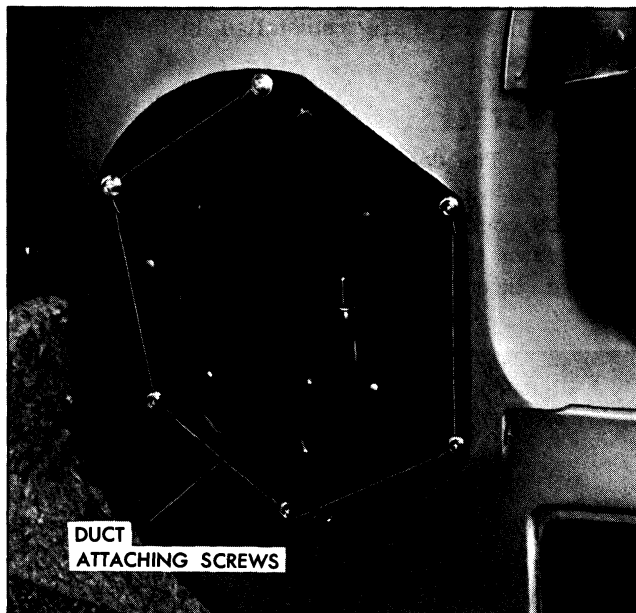

Fig. 2-12 Air Outlet Door
2. Remove screws securing outlet to shroud panel, disengage cable from pin, on door, and remove outlet (Fig. 2-12).